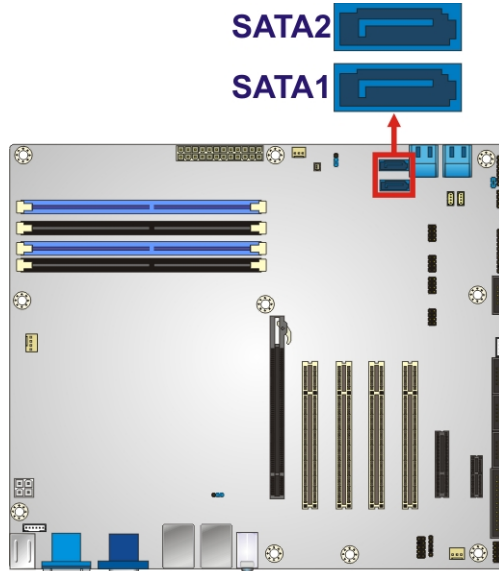

Figure 3-19: SATA 6Gb/s Drive Connector Location
- CN Location:** See **Figure 3-19**